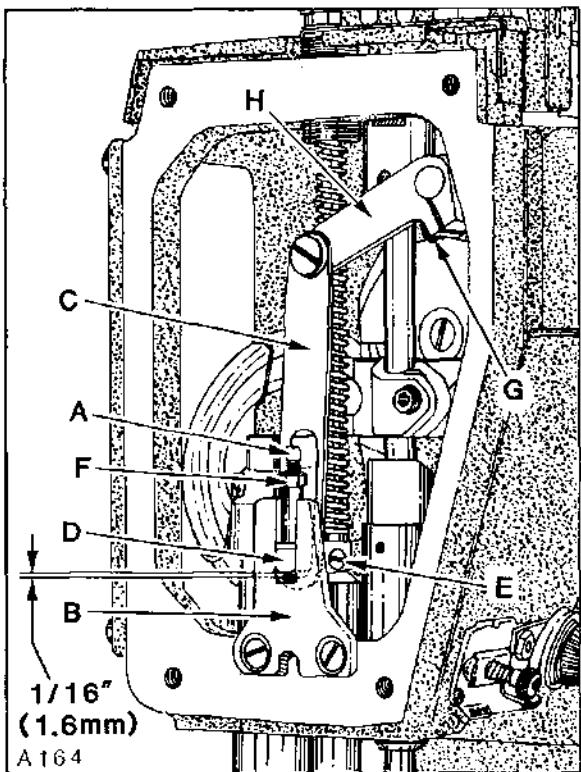

Fig. 34
With needle bar at bottom of stroke and presser foot resting squarely on throat plate, there should be a minimum clearance of $1/64$ inch (0.4mm) between the bottom of screw (A, Fig. 34) and bottom of slot in presser bar guide plate (B). At this time, there should be at LEAST $1/32$ inch (0.8mm) clearance between bottom of presser bar guide and top of lower presser bar bushing. There should also be $1/16$ inch (1.6mm) clearance between bottom of slot in lifter lever link (C) and bottom of presser bar guide (D) when foot lifter lever is released. If adjustment is required, proceed as follows: